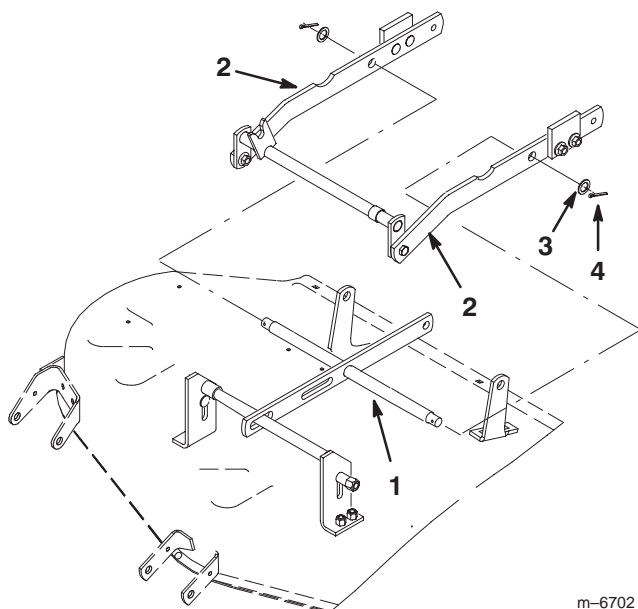

Figure 4
6. Assemble the draft bars onto the leveler bar (Fig. 4) and secure each end with a washer (5/8 x 1 inch) and cotter pin.